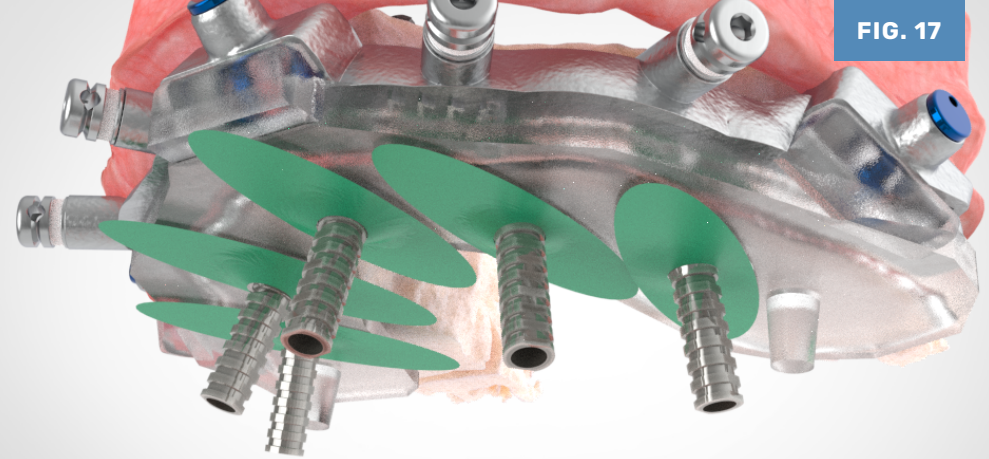

FIG. 17
1. Seat a new set of temporary cylinders and provided gaskets to protect the multi-unit abutments. **(FIG. 17)**